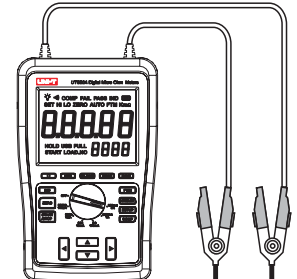

Figure 6
- 1.Connect Kelvin clips to T+ and T- terminals and to the object under test(See Figure 6);